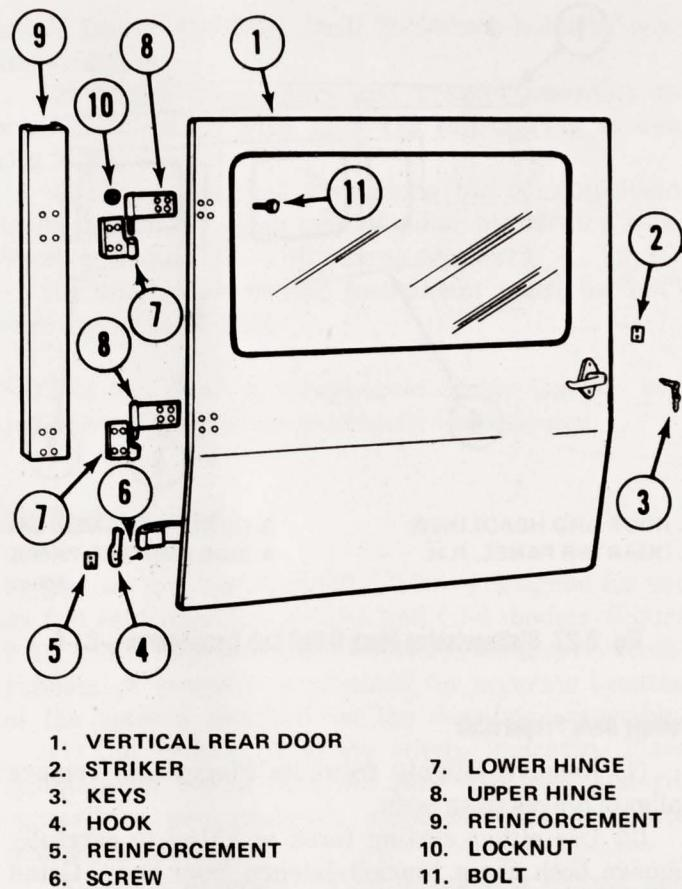

Fig. 2-32 Vertical Rear Door and Hardware
The vertical rear door installation on the full cab is described in the following procedures (fig. 2-32).
(1) Attach upper hinges to vertical rear door assembly with bolts and locknuts (fig. 2-32).
(2) Position and align door, with aid of helper, in opening and fit lower hinge on upper hinge.
(3) Use lower hinge as template and mark loca-